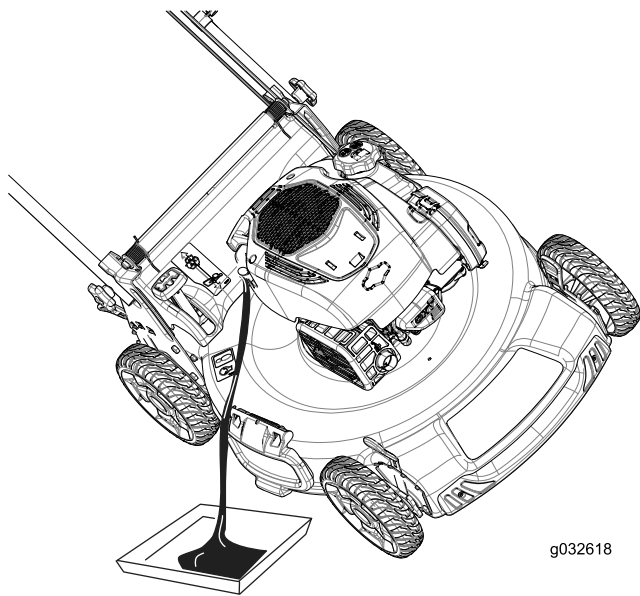

Figure 34
4. Tip the machine onto its side (so that the air filter is up) to drain the used oil from the oil-fill tube (Figure 34).